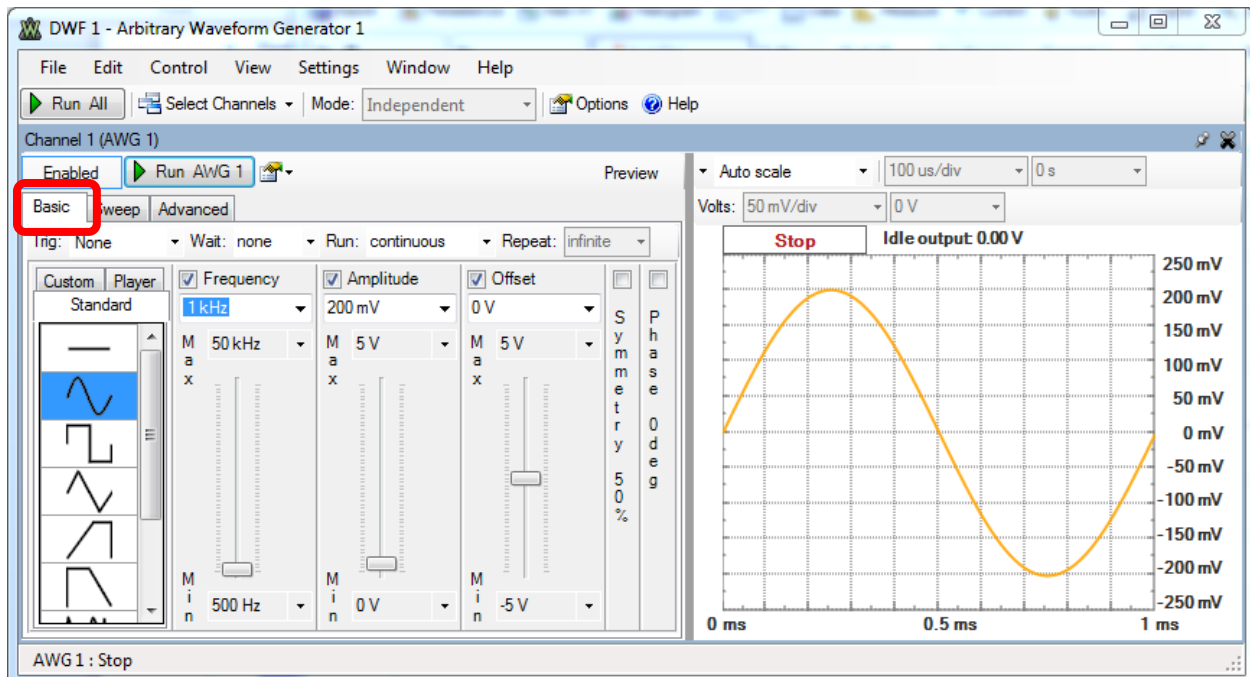

Figure A-5
After correctly installing the Digilent Waveforms software and connecting the Analog Discovery, open the software and select the WaveGen (for the function generator) and the Scope (for the oscilloscope) from the Digilent Waveforms window. You should see the window similar to that shown in **Figure A-5** (with 'Basic' selected) for the function generator and the window shown in **Figure A-6** for the scope. The values for various parameters shown in both windows will likely be different. We will set those up next.
- Your WaveGen window should look like **Figure A-5**. Make sure Enabled is showing.